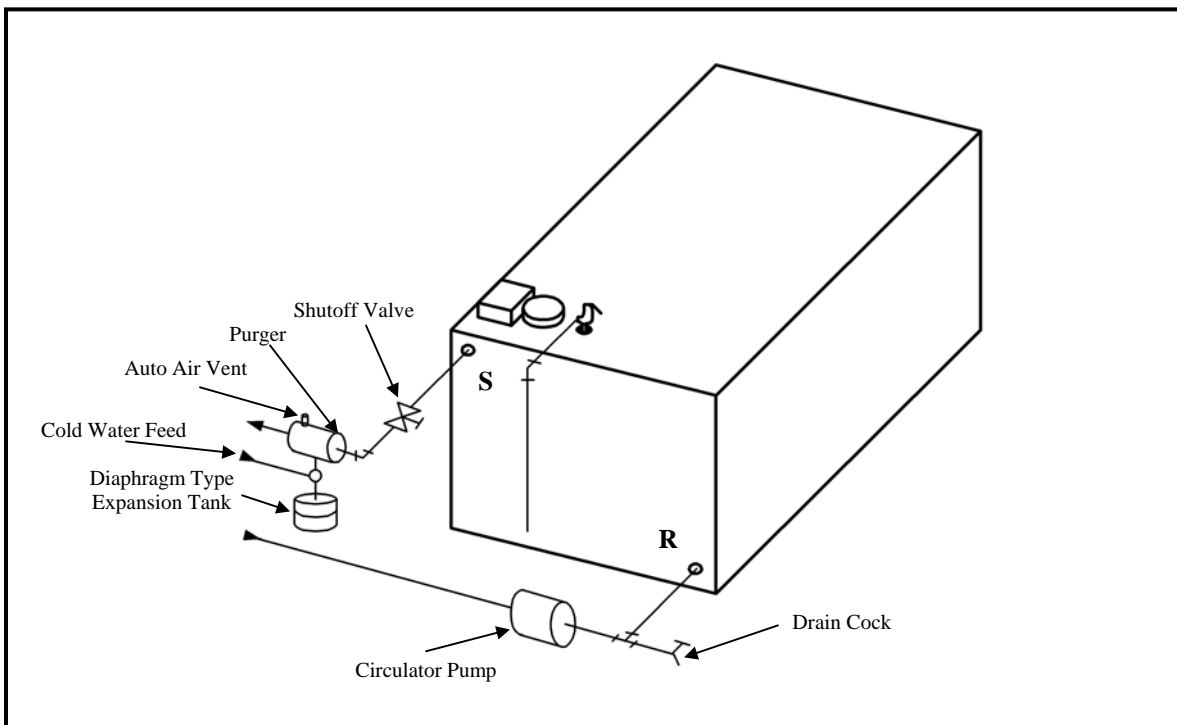

Figure 17.
- (b) Piping connections with diaphragm expansion tank--- See Figure 17.